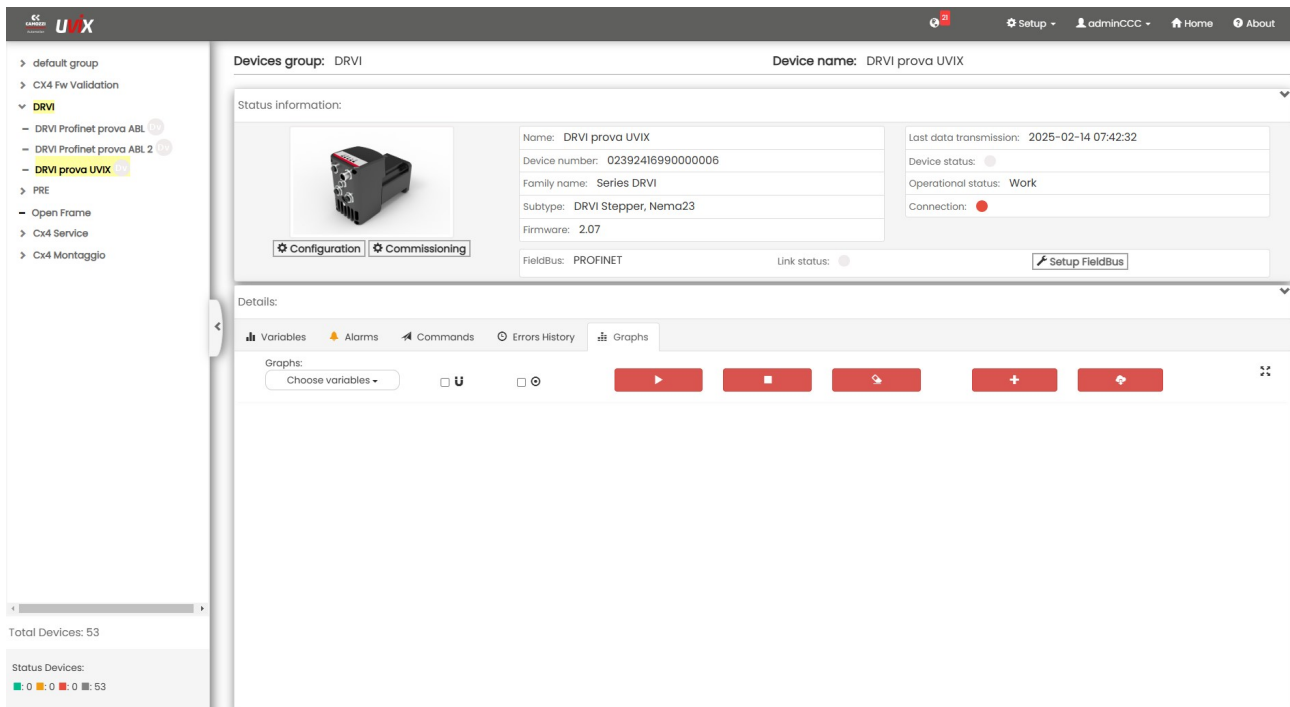

Figure 6.40: Window Graph
- Graph: Displays the values of the variables in a graphical mode. Only for devices that support this modality (Figure 6.40)